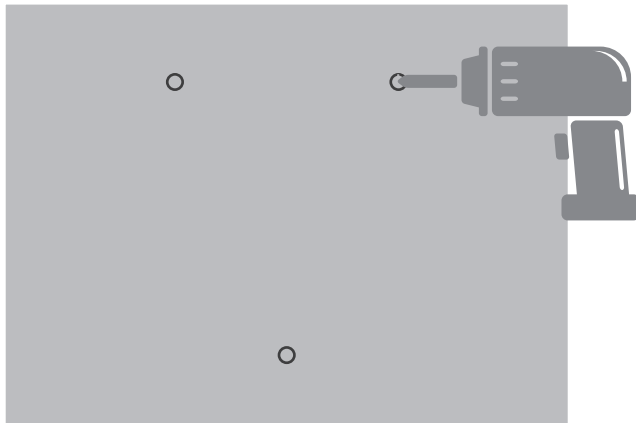

Fig. 4-5
3. Drill the mounting holes into the wall with a depth of at least 1.57" (40 mm). (See Fig. 4-5)